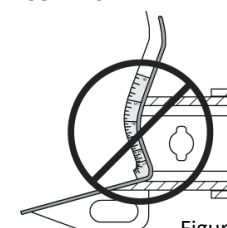

Figure 2
Insert Smart Pin (e) through hole in hitchbox and hole in TBM shank (g); ensure the locators are inserted into the notches in the hitchbox (Fig. 2)
- Do not measure from visible bumper front of corner, upwards (Figure 2).